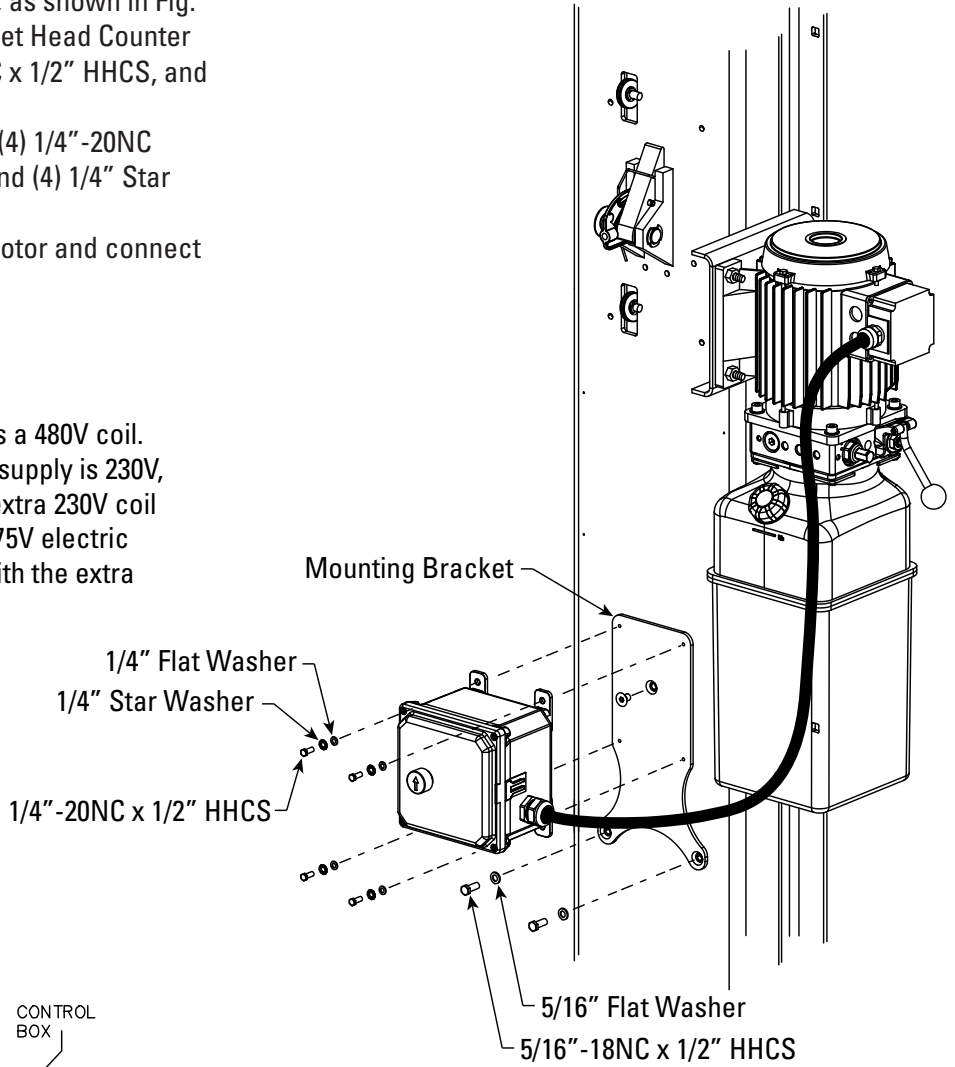

Fig. 16a
- A) Attach Mounting Bracket on column, as shown in Fig. 16a, using (1) 5/16" -18NC x 1/2" Socket Head Counter Sunk Machine Screw, (2) 5/16" -18NC x 1/2" HHCS, and (2) 5/16" Flat Washers.
- B) Attach Control Box to Bracket using (4) 1/4" -20NC x 1/2" HHCS, (4) 1/4" Flat Washers, and (4) 1/4" Star Washers.